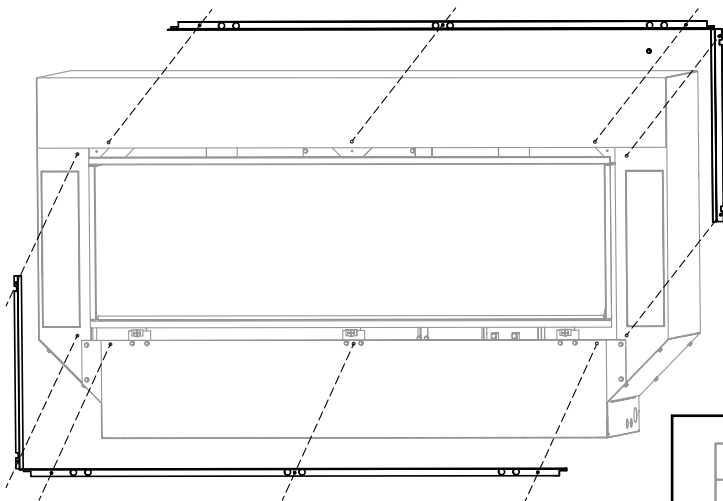

Figure 34-2: Removing Filler/Angle Brackets
- LEFT/RIGHT FILLER/ANGLE BRACKETS:** Make sure the two Filler/Angle Brackets are **installed** (ref. **Figure 34-2, next page**).